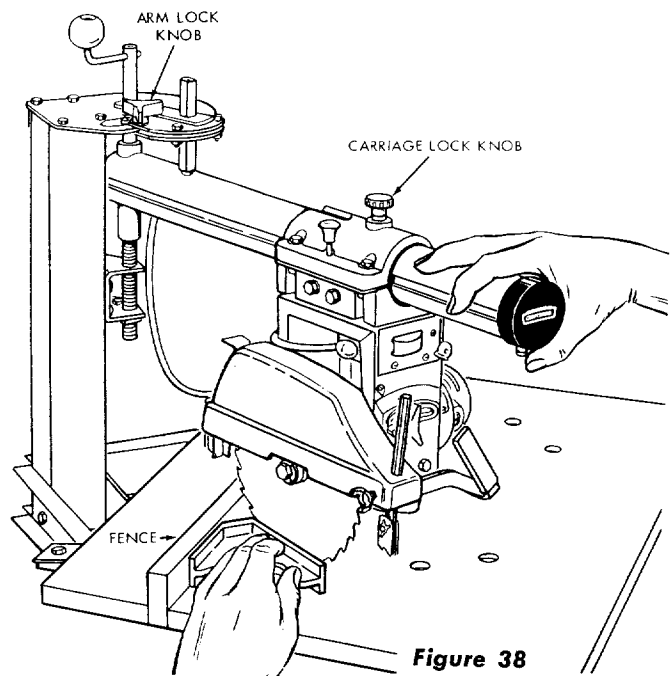

Figure 38
- (11) Using the base of the combination square, positioned as shown in figure 38, check for a correct 45° angle of the saw blade with the fence.
- (12) If an adjustment is required proceed as described in preceding instructions for setting the right-hand 45° stop.